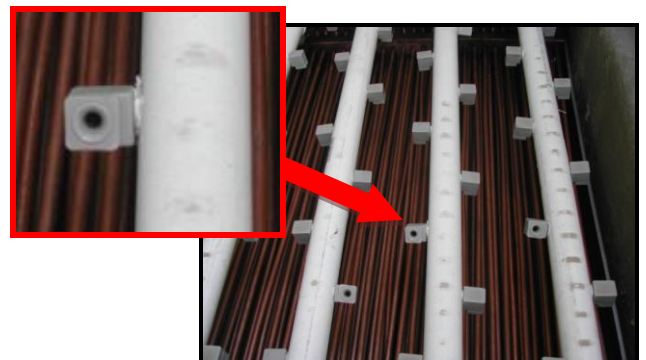

Figure 5: The AquaChill's water spray nozzles have very wide openings. This helps prevent clogging due to hard water scale.
- **Wide spray nozzles** - The AquaChill uses water distribution nozzles with very wide openings (Figure 5). This helps prevent clogging due to hard water scale deposits.